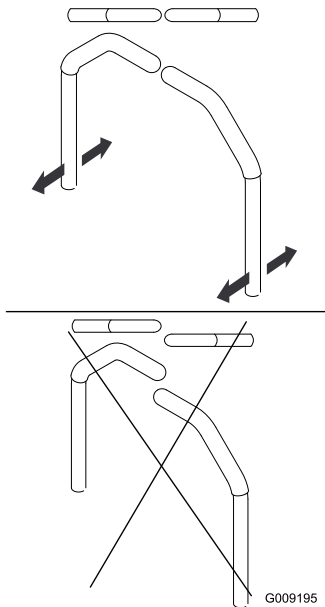

Figure 63
4. Align the levers front to rear position by bring the levers together to the neutral position and slide them until they are aligned, then tighten the bolts (Figure 63).